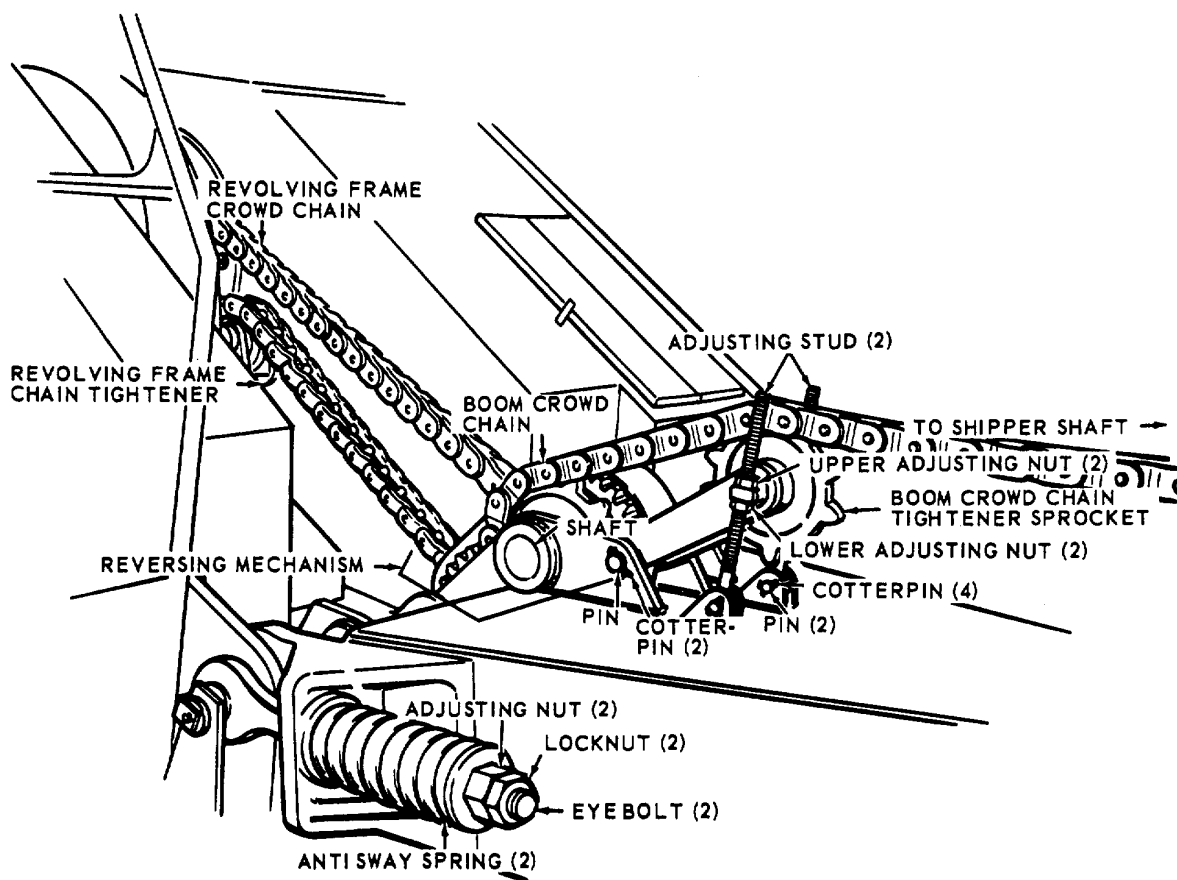

Figure 3-35. Crowd chain and antisway spring adjusting points.
- Loosen top adjusting nut (fig. 3-35) and bottom adjusting nut on the two studs.
- Tension on antisway springs allows boom some freedom of movement, yet prevents excessive swaying. At installation, tighten adjusting nut (fig. 3-35) to compress spring until it is $14\frac{5}{8}$ inches in length.